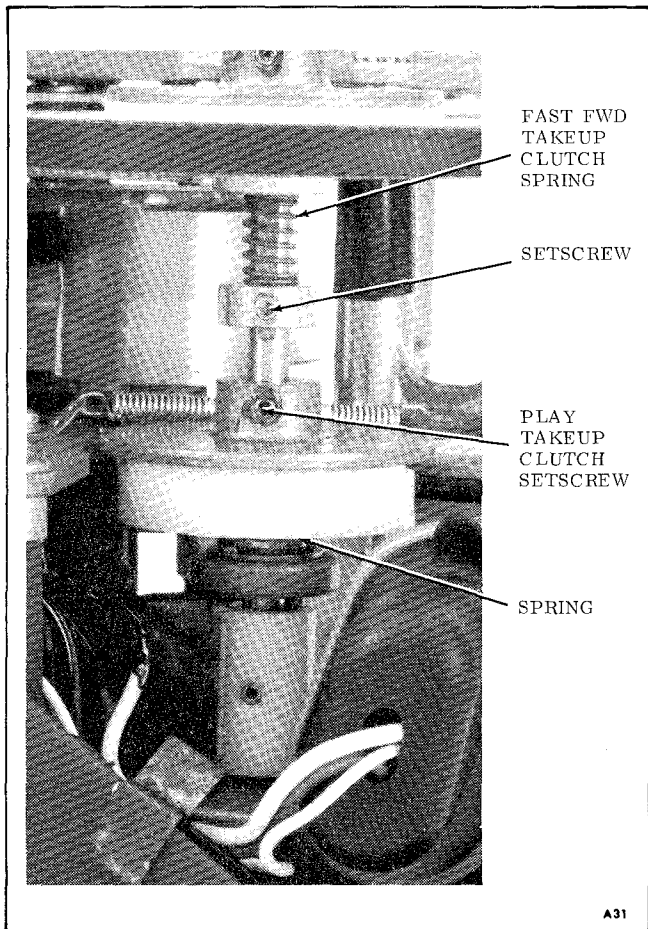

Figure 5-2. Takeup Torque Adjustment
5.8 TAKEUP REEL TORQUES (See Figure 5-2)
5.12 PLAY TAKEUP CLUTCH (See Figure 5-2)